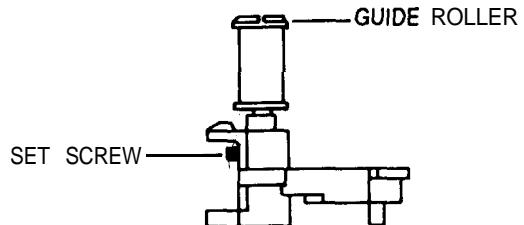

Fig. 12
- 6 Slightly loosen the set screw at the lower part of the S, T-guide rollers with a (Hex Wrench - 0.9mm) so that the guide roller can be adjusted with reasonable tightness. (Refer to Fig. 12)